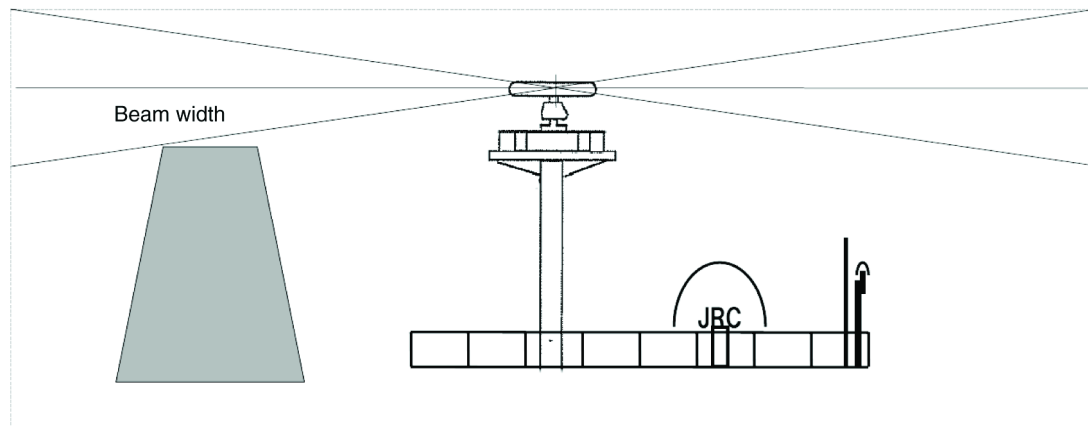

Fig. 1-3-4
- When installing the scanner, select a location where there are the fewest structural objects in the surrounding area so that false images which interfere with target detection will not be generated by signal reflection from other scanners, deck structures, and cargo. Only as a guide, note that structural objects should not exist within the range of the vertical beam width (Fig. 1-3-4).